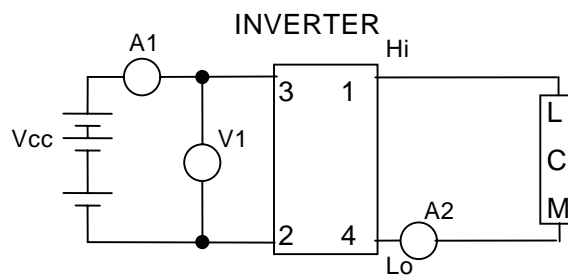

Fig.1 Wiring
- (1) All characteristics are measured by our certain test equipment. The measurement of condition should be stable lighting (more than 30 minutes after startup :at 25+/-1deg and no breath of wind) (The measurement of input rush current is exception.)
- (2) The electrical characteristics are measured as we show on measurement diagram fig.1. $V_{cc}=5V$.
- (3) As we show on measurement diagram fig.1, the test equipment shall be V1:DC Volt meter (Class0.5) A1:DC Current meter(Class0.5) A2:AC Current meter type2016(Y.E.W) or FLUKE45(FLUKE) V_{cc} :DMS35-2.3(Metronix).
- (4) The line length of between the lamp and 2pin of CN2(high voltage side)is less than 150mm. The line length of between the lamp and 1pin of CN2(low voltage side)is less than 400mm.